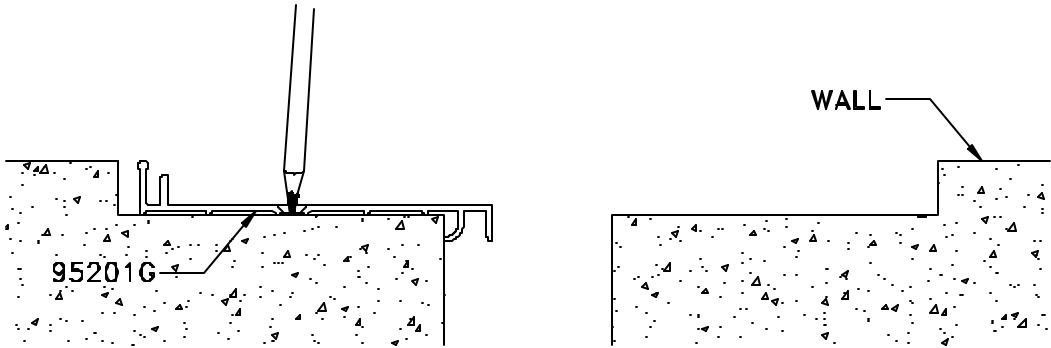

Figure 7
- STEP 13.** Using the base member as a template, mark the anchor locations on the wall (see Figure 7).